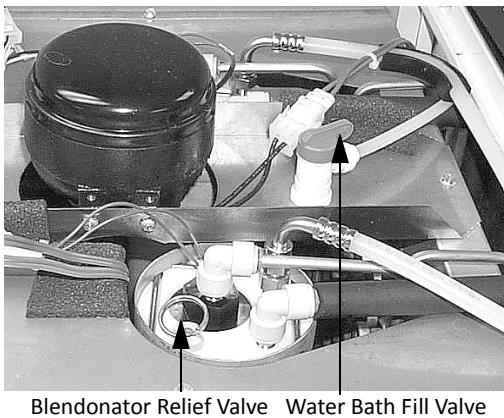
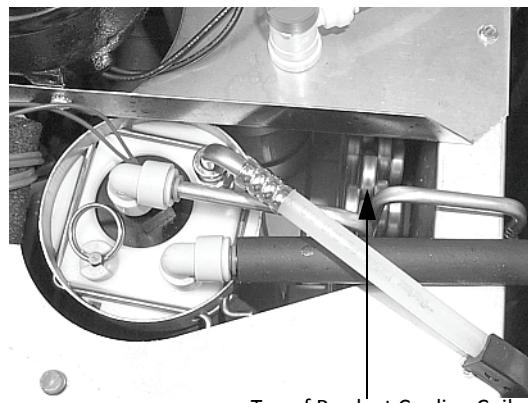

Figure 6.
Figure 7.
3. Remove the top cover and open the water bath fill valve (Figure 6.) and fill the water bath just to the top of the product cooling coils (Figure 7.)